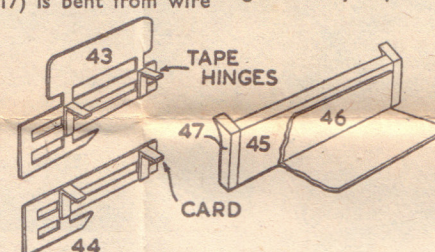

Fig. 8—The lifeguards
sketch. Small tape hinges are attached to pieces 43 which are hinged to the underside of piece 4. This allows the step to be up or down. It is shown up, in the finished sketch, but on the other side it will be down, to allow passengers to alight. Pieces 44 will be glued in place by means of small card strips (see Fig. 8) and they will be positioned on the opposite side to the step (43). The longer guards (42) will be glued similarly in place across the underside of piece 4.
Fig. 8 shows pieces 45, 46 and 47 glued together. These are glued under the floor (3) directly under pieces 6 and 7. Piece 47 is clearly shown in the finished